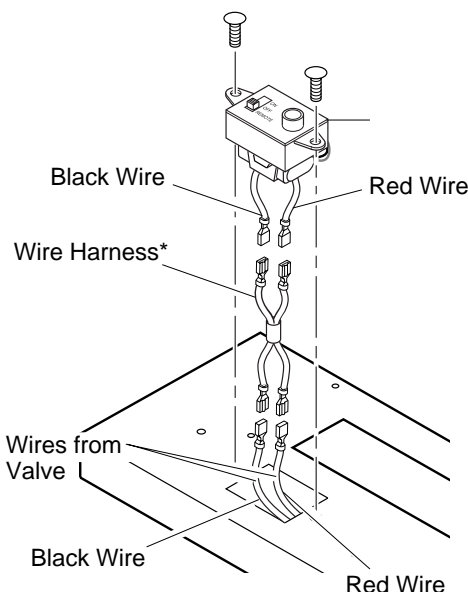

Figure 30 - Installing Remote Receiver
7. Connect wires as shown in Figure 30.
8. Install remote receiver unit onto gas heater base using the two screws removed in step one (see Figure 30).